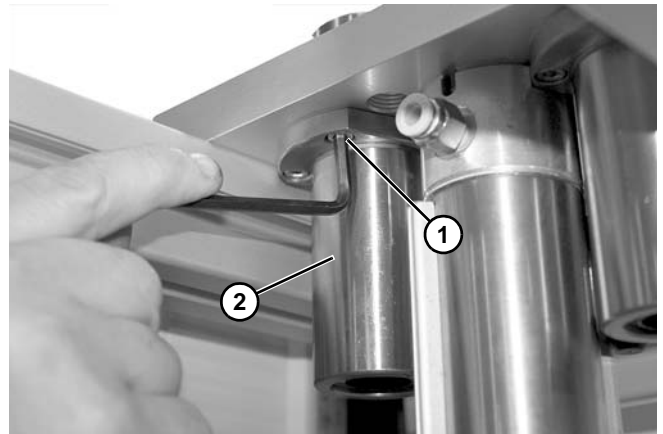

Figure 106
7. Remove socket head screws (**Figure 106, item 1**) and one bearing (**Figure 106, item 2**) as shown.